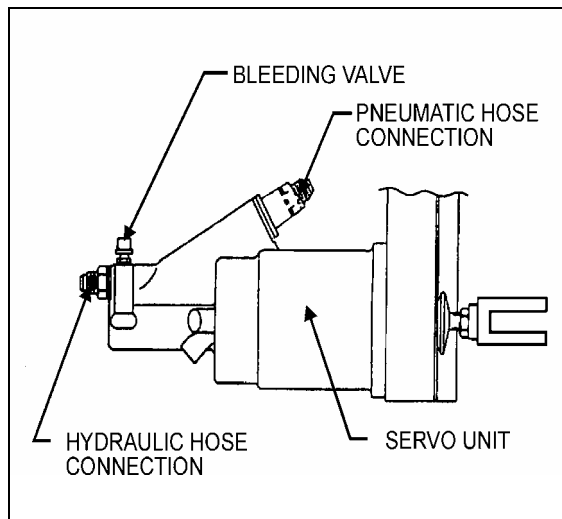

FIGURE 6: SERVO UNIT
2. Connect a plastic tube to the bleeding valve (Fig. 6). Dip the other end of the tube in a jar containing several inches of clean brake fluid.
2. Slightly loosen teflon flexible hydraulic hose connector from adapter mounted on extremity of servo unit (Fig. 6).
The pneumatic air line filter should be cleaned every 6,250 miles (10 000 km) or twice a year, whichever comes first (Fig. 6). The filter is mounted inside the servo unit pneumatic branch.